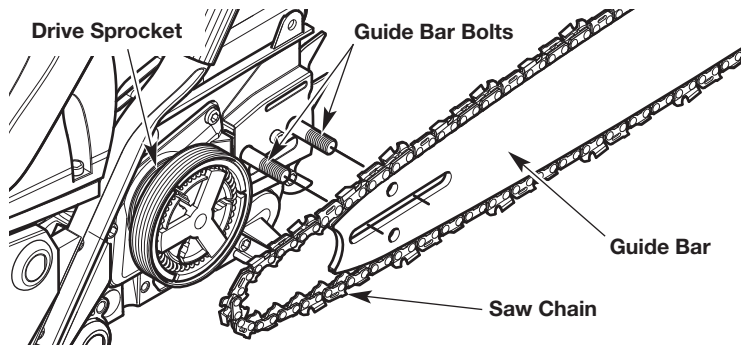

Fig. 31
5. Remove the guide bar and saw chain from the guide bar bolts (Fig. 31).
3. Hold the saw chain and guide bar together in position over the unit. Loop the saw chain around the drive sprocket and install the guide bar onto the guide bar bolts (Fig. 31). Make sure the guide bar is flush against the mounting surface. Make sure the flats on the saw chain are in the grooves on the drive sprocket.